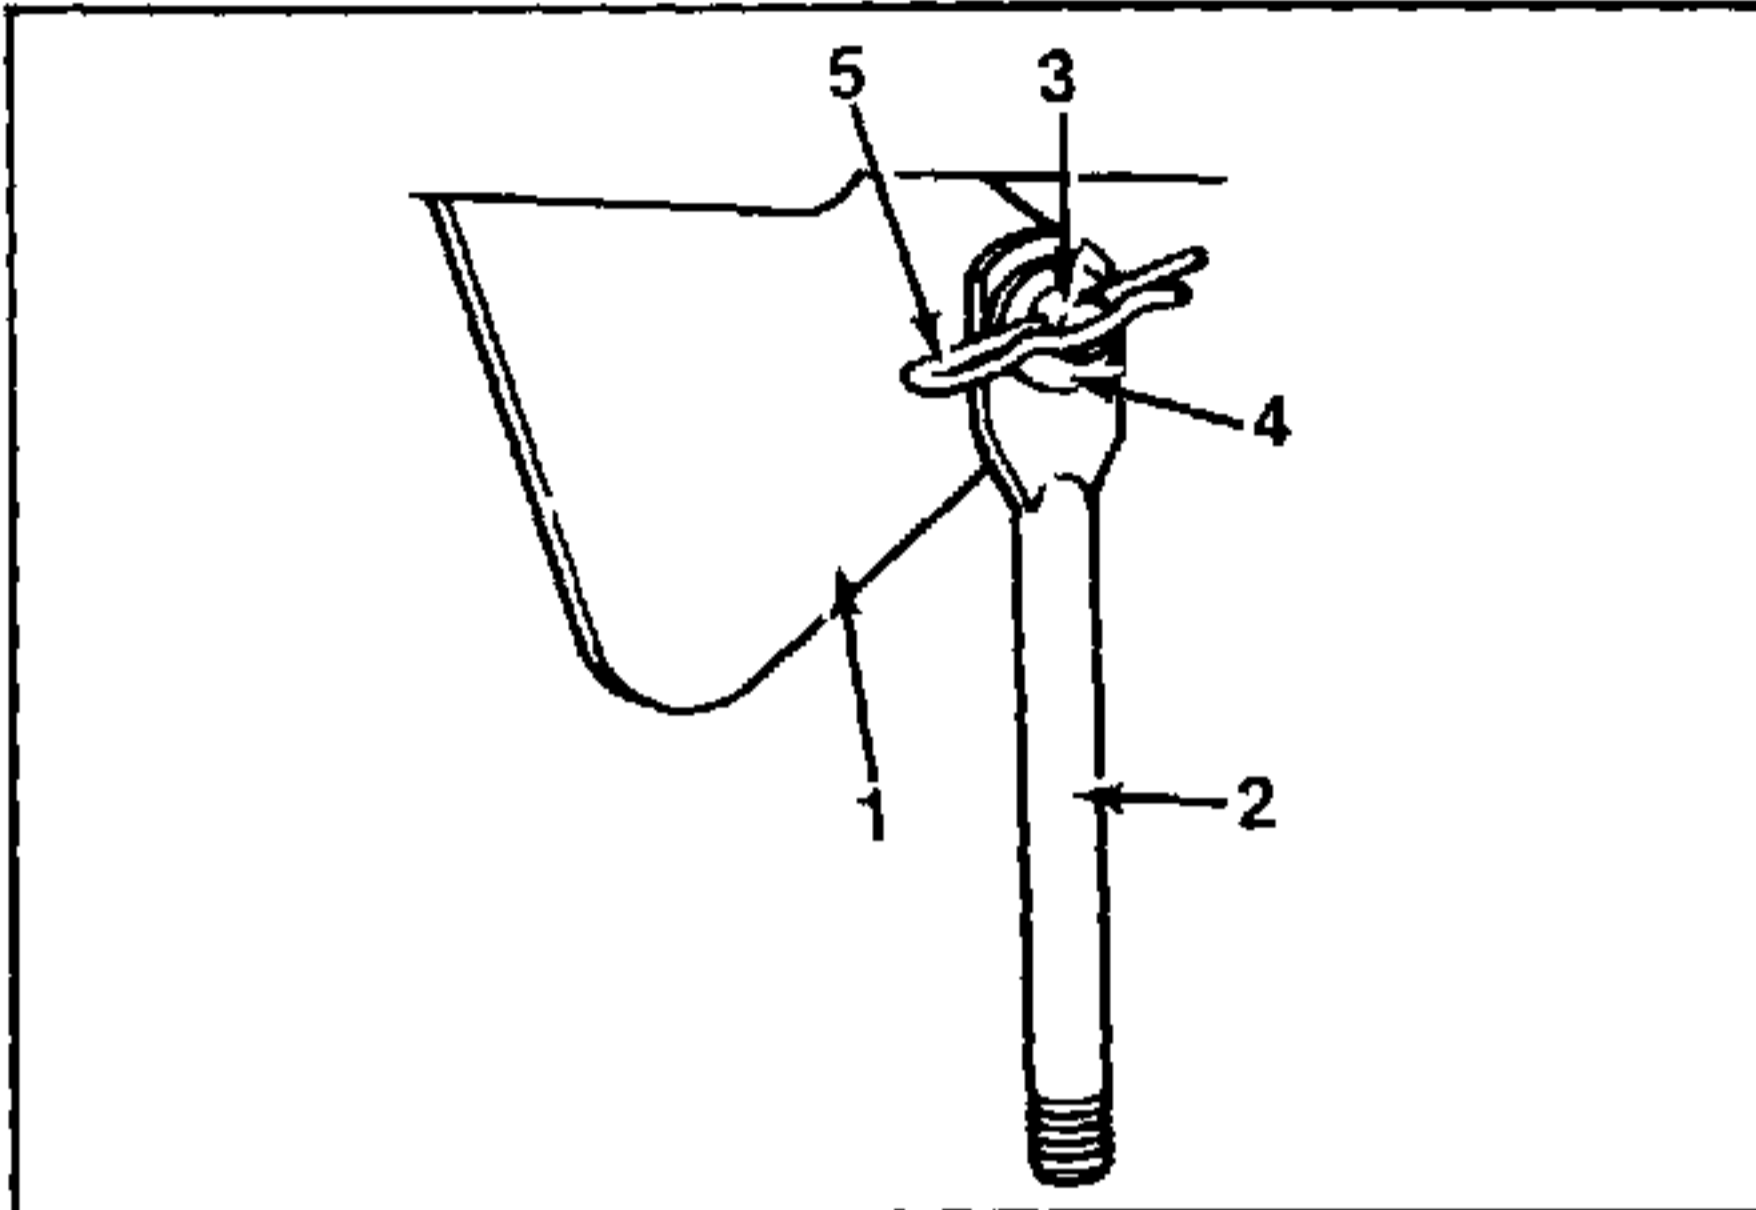

FIGURE 3.
2. Refer to figure 3. Note the relative position of the flat area at the top of the two rear lift links, to the welded lift pins of the lift carriage. Remove the hairpin cotters and flat washers which attach the rear lift links to the lift pins. Remove the two rear lift links.